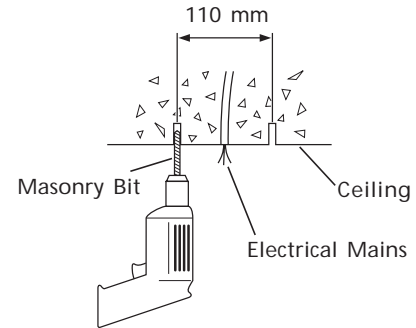

Figure 2d - Drilling Anchor Holes
2. Drill two holes 110 mm (4,32") apart on either side of the mains as shown in Figure 2d. The holes are for M5 x 30 mm expansion anchors.